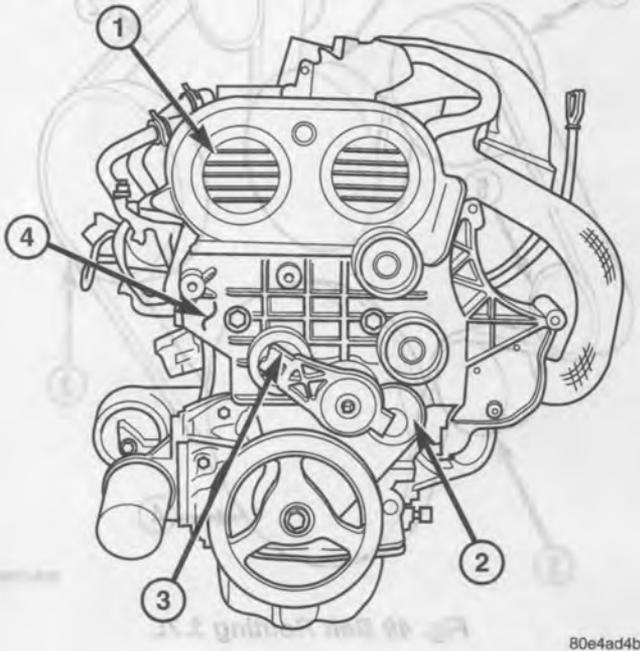

Fig. 47 ACCESSORY DRIVE BRACKET
(8) Install the accessory drive mounting bracket (Fig. 47).